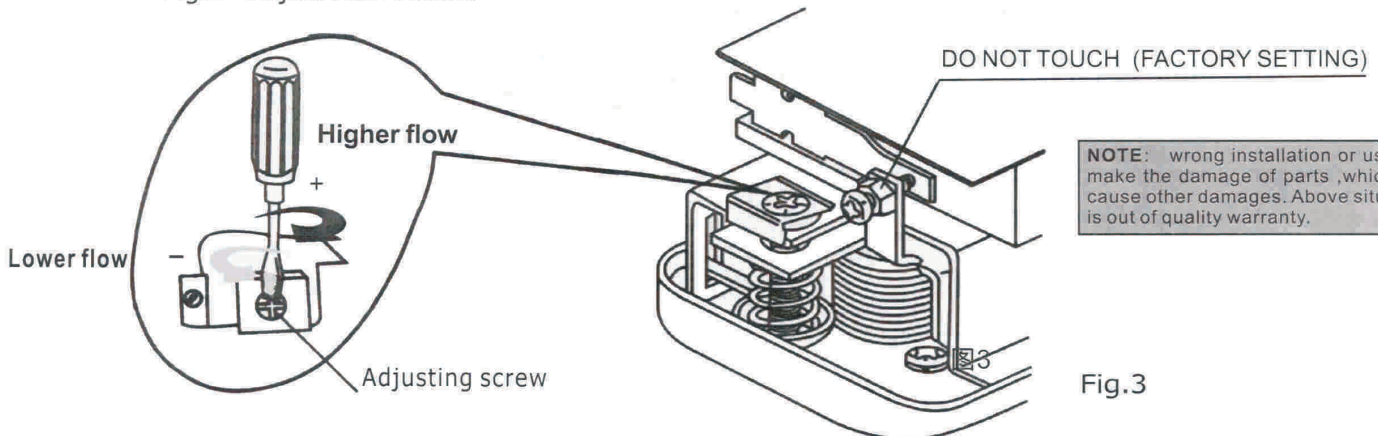

Fig.3
- 2、 For higher flow rates, turn the adjusting screw clockwise. When the flow value has been adjusted higher than the factory setting and then you want to adjust it lower, turn the adjusting screw counter-clockwise. (See Fig.3)